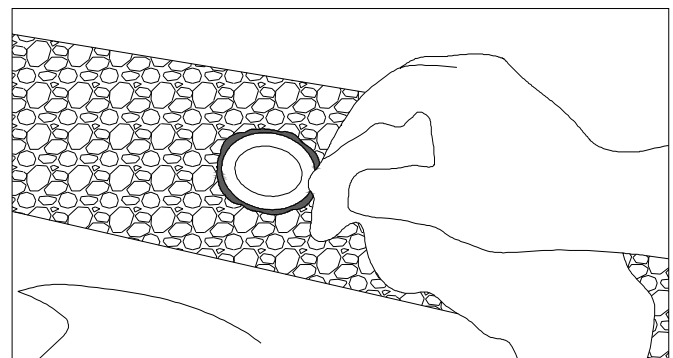

Figure 25D
- The silicone must provide a complete seal around cap of the sleeve. (FIG. 25D)